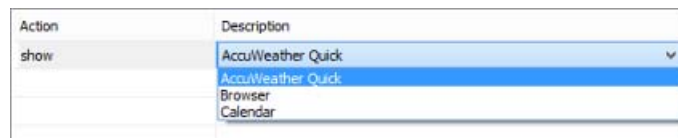

FIG. 338 Button Press (Event) Property
5. This adds **show** as an Action: select the target Application window from the drop-down list of all Application windows in the project, for example *Dropbox* (FIG. 338).